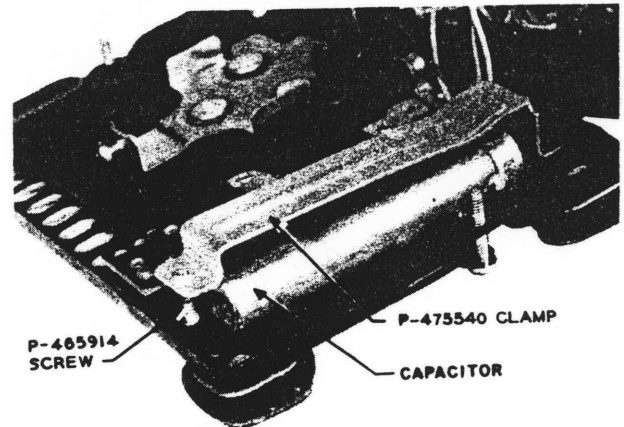

Fig. 21 — Capacitor Assembly
3.15 Mount the 195-type capacitor in the 300 series telephone set as shown in Fig. 21.